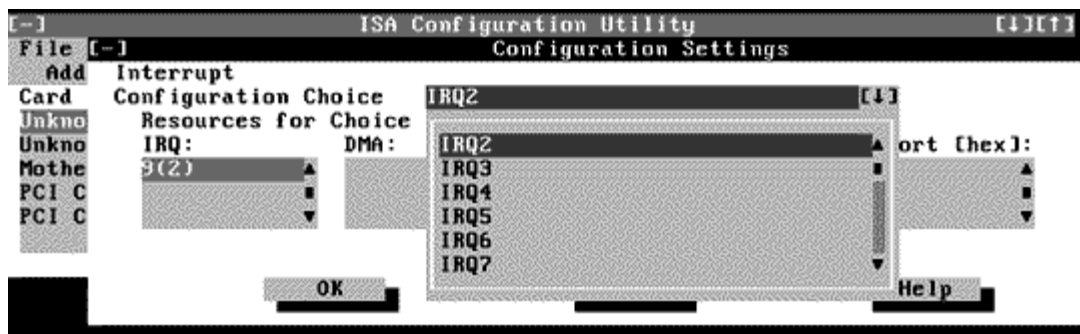

Figure 4-5. Available Settings List Box
8. To change the resource settings, click the down arrow next to the Configuration Choice box. Then click the new resource setting from the list of available settings (see Figure 4-5).